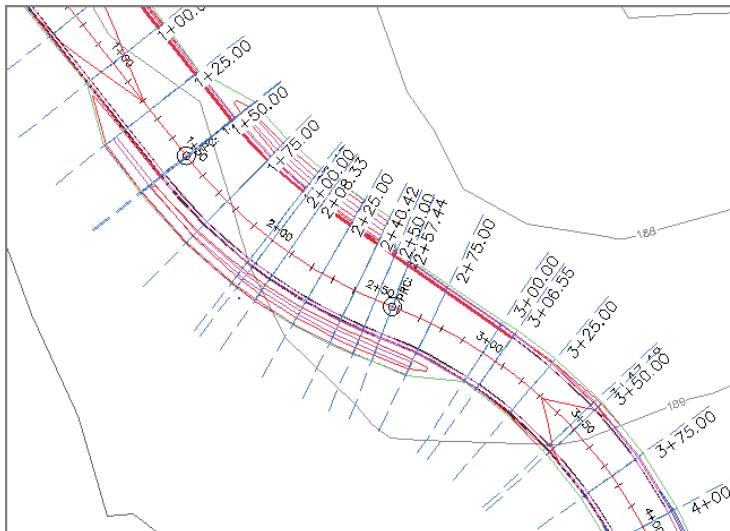

FIGURE 10.7 Sample lines created at corridor stations
6. Press Esc to end the command. Zoom in to the left viewport, and examine the sample lines that have been created (see Figure 10.7).